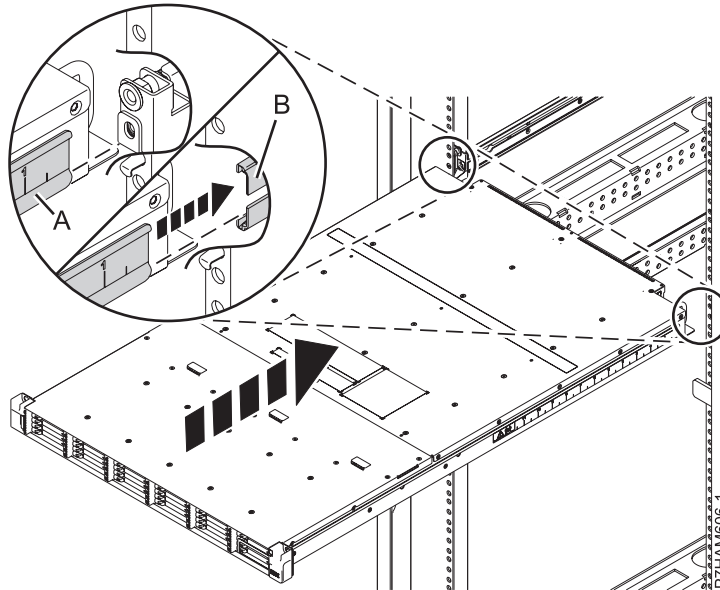

Figure 14. Fitting the enclosure into the rail sheath
- c. On one side of the enclosure, insert the chassis bracket guide (A) into the rail sheath (B) opening, as shown in Figure 14. Repeat this operation on the other side.